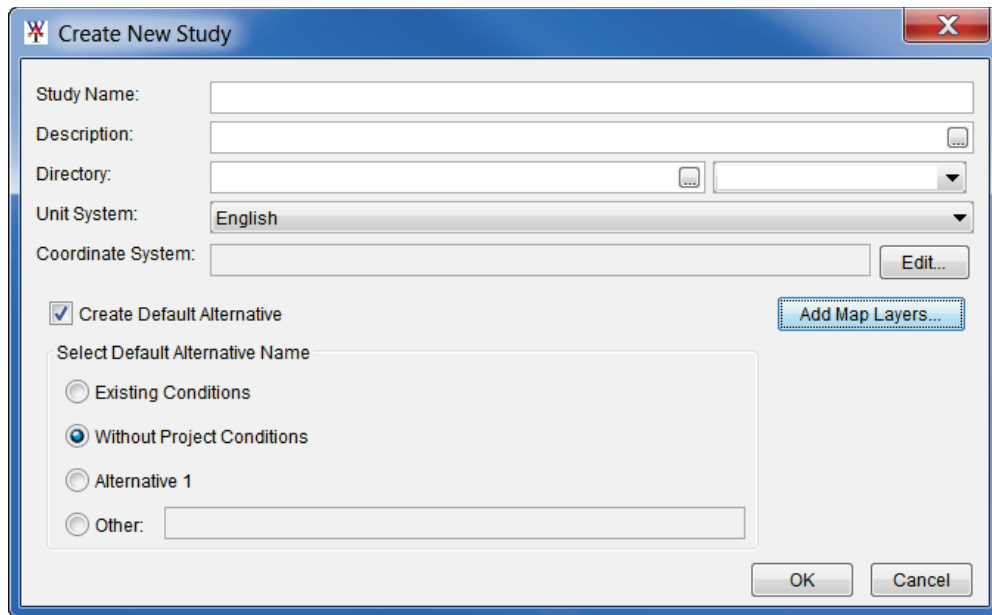
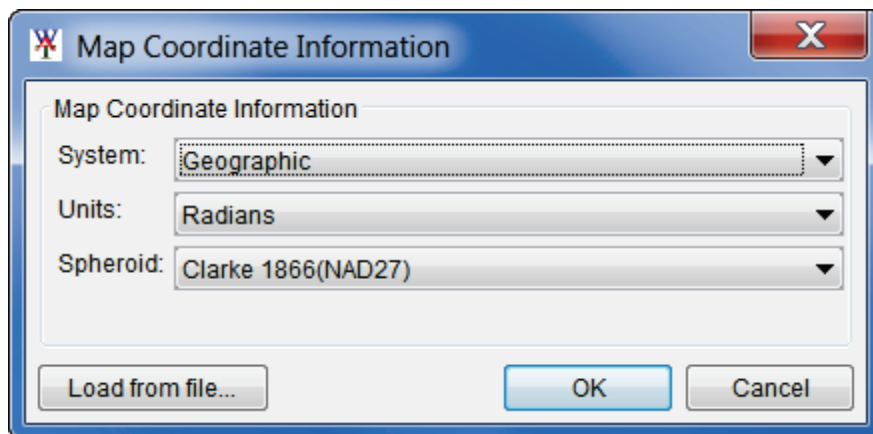
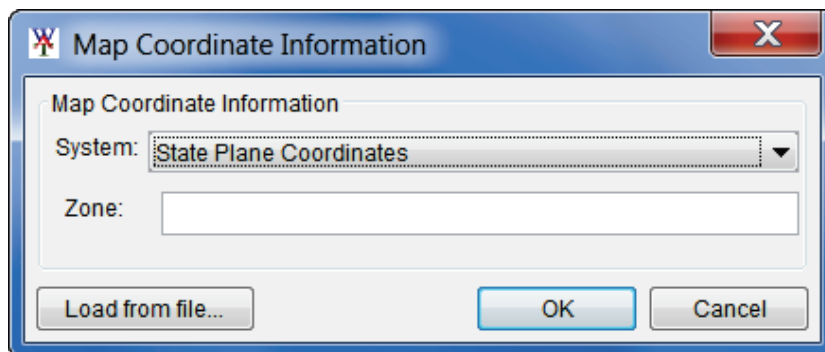

Figure C.3 Create New Study Dialog Box
Figure C.4 Geographic Coordinate System
Figure C.6 State Plane Coordinate System
1. Create a new study (Chapter 4, Section 4.1.1), from the **Create New Study** dialog box (Figure C.3), click **Edit** (by the **Coordinate System** box), the **Map Coordinate Information** dialog box will open (Figure C.2).
2. From the **System** list, select **Geographic**, the **Map Coordinate Information** dialog box (Figure C.4) will now display the data needed to setup a *Geographic* coordinate system for the study.
3. From the **Units** list (Figure C.4), select the units for the *Geographic* coordinate system. Available units are **Radians**, **Seconds of Arc**, and **Degrees of Arc**.
5. Click **OK**, the **Map Coordinate Information** dialog box (Figure C.4) will close, and the user will be returned to the **Create New Study** dialog box (Figure C.3). In the **Coordinate System** box, *Geographic* will be displayed.
6. Click **OK**, the **Map Coordinate Information** dialog box (Figure C.5) will close, and the user will be returned to the **Create New Study** dialog box (Figure C.3). In the **Coordinate System** box, *Universal Transverse Mercator* will be displayed.
- From the **System** list, select **State Plane Coordinates**, the **Map Coordinate Information** dialog box (Figure C.6) will now display the data needed to setup a *State Plane* coordinate system for the study.
- In the **Zone** box (Figure C.6), enter the zone for the state (FIPS codes).
- Click **OK**, the **Map Coordinate Information** dialog box (Figure C.6) will close, and the user will be returned to the **Create New Study** dialog box (Figure C.3). In the **Coordinate System** box, *State Plane Coordinates* will be displayed.
- Create a new study (Chapter 4, Section 4.1.1), from the **Create New Study** dialog box (Figure C.3), click **Edit** (by the **Coordinate System** box), the **Map Coordinate Information** dialog box will open (Figure C.2).
- Click **OK**, the **Map Coordinate Information** dialog box (Figure C.7) will close, and the user will be returned to the **Create New Study** dialog box (Figure C.3). In the **Coordinate System** box, *Albers Equal-Area Conic* will be displayed.
6. Click **OK**, the **Map Coordinate Information** dialog box (Figure C.7) will close, and the user will be returned to the **Create New Study** dialog box (Figure C.3). In the **Coordinate System** box, *Lambert Conformal Conic* will be displayed.
7. Click **OK**, the **Map Coordinate Information** dialog box (Figure C.9) will close, and the user will be returned to the **Create New Study** dialog box (Figure C.3). In the **Coordinate System** box, *Transverse Mercator* will be displayed.
- Click **OK**, the **Map Coordinate Information** dialog box (Figure C.9) will close, and the user will be returned to the **Create New Study** dialog box (Figure C.3). In the **Coordinate System** box, *Albers Equal-Area Conic (SHG)* will be displayed.
- Click **OK**, the **Map Coordinate Information** dialog box (Figure C.11) will close, and the user will be returned to the **Create New Study** dialog box (Figure C.3). In the **Coordinate System** box, *Polar Stereographic (HRAP)* will be displayed.